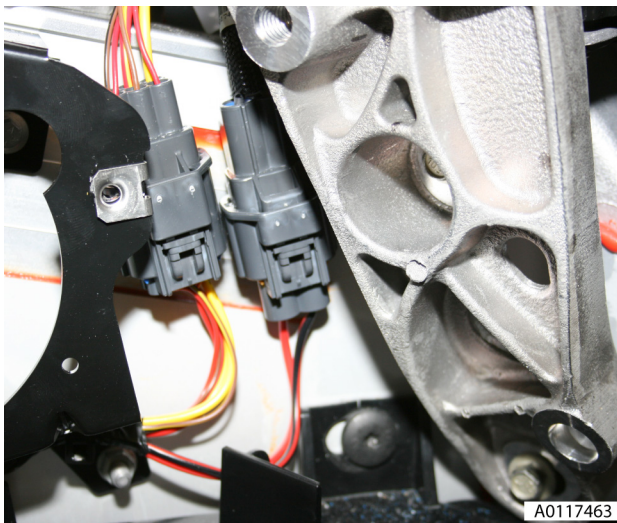

Fig. 10
- Disconnect header latch harness multiplug (see Fig. 10).